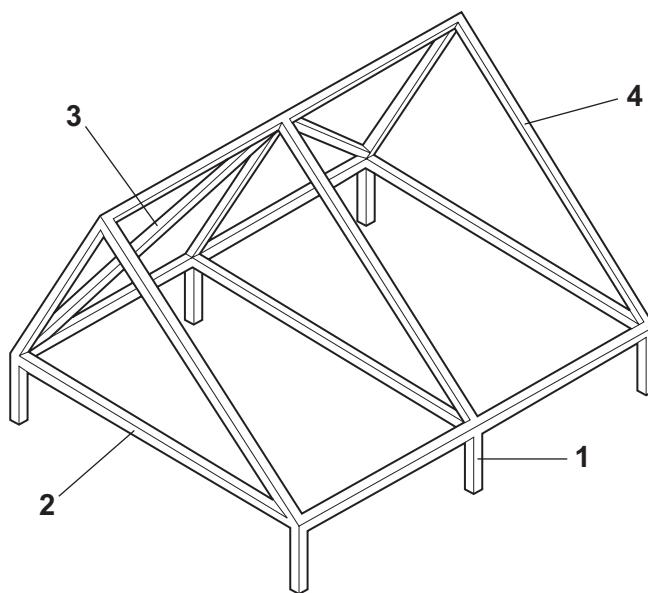

Fig. 4
- (e) Fig. 4 shows a structure for a roof truss.